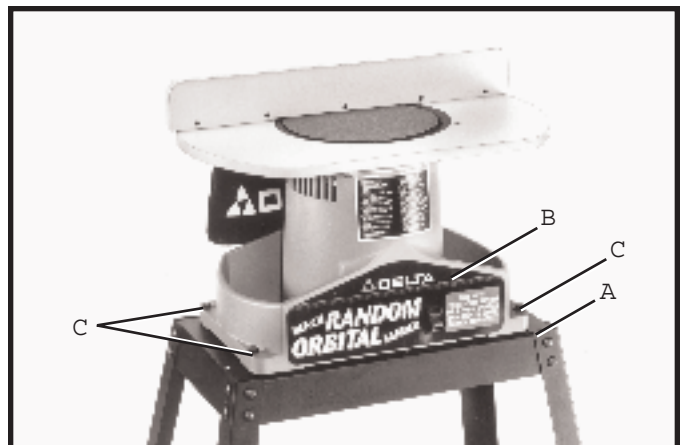

Fig. 15
If you purchased the accessory 50-780 stand for use with your sander, carefully place the sander on the stand. Align the four holes on the top of stand (A) Fig. 15, with four mounting holes at the base of sander (B) and fasten sander to the stand with four M8 x 45mm hex head screws (C), three of which are shown, eight flat washers and four hex nuts supplied.